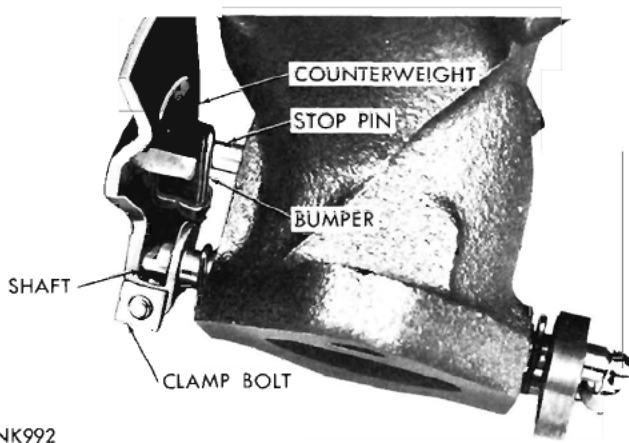

Fig. 26—Installing Counterweight (318 Cu. In. Engine)
(1) Be sure the shaft retainer is in place on the outer end of the valve shaft.
(2) Install the counterweight and the bumper on the outer end of the valve shaft. The bumper should be located on the left side of the hub section of the counterweight and to the right side of the stop pin (Fig. 26). If the fabric on the bumper is worn, install a new bumper.
(3) Tighten the clamp bolt to 50 inch-pounds with Tool C-3380 Torque Wrench. Test the operation of the valve for freedom of movement.